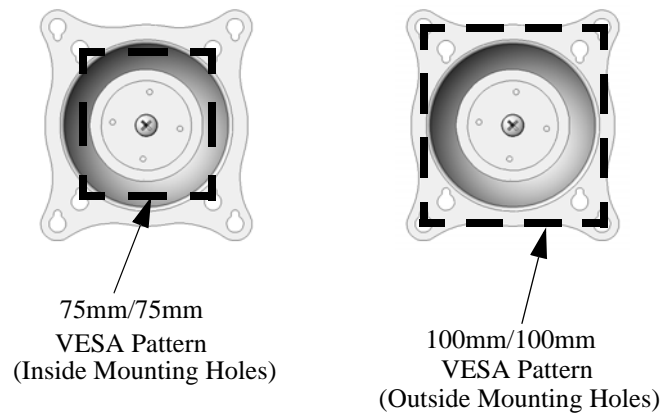
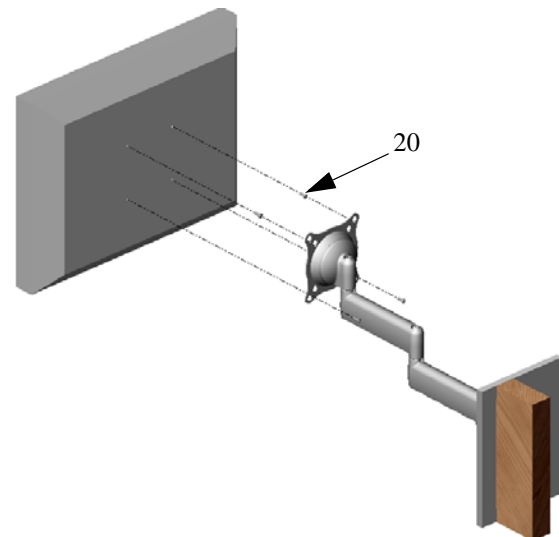
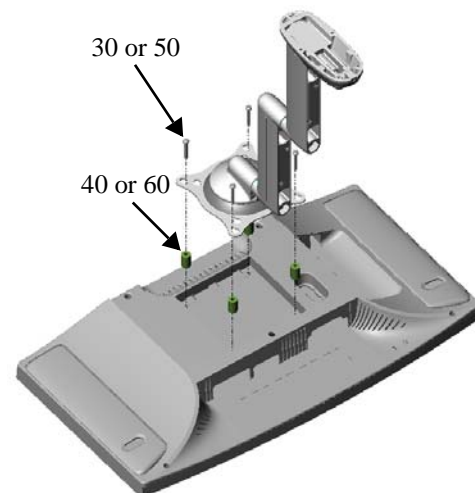

Figure 7. 75mm/100mm VESA Mounting Patterns
Figure 8. Flush Mount – 75mm/100mm Pattern
Figure 9. Recessed Mount – 75mm/100mm Pattern
1. Install two M4 x 12mm screws (20) into the top mounting holes on the display (see Figure 7 and Figure 8).
3. Install two remaining M4 x 12mm screws (20) into the bottom mounting holes on the display.
4. Secure the display to the mount by tightening all four M4 x 12mm screws (20).
2. Place four spacers (40 or 60) over the mounting holes on the back of your display (see Figure 7, Figure 8 and Figure 9).